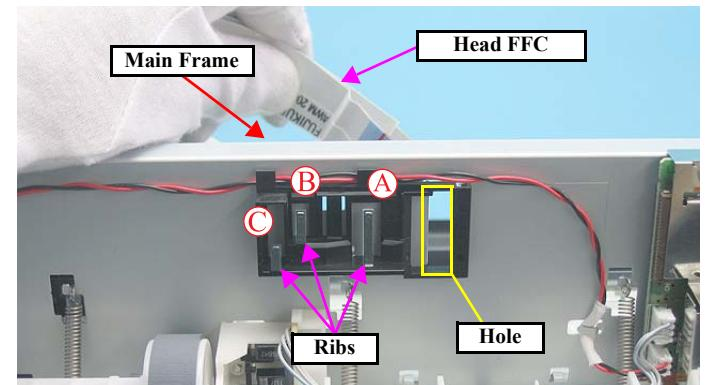

Figure 4-29. Installing Head FFC (1)
1. Put the Head FFC through the Hole of the Main Frame. (see Figure 4-29 (p.48))
2. Secure the Head FFC with Rib A, and B. (see Figure 4-29 (p.48))
(see Figure 4-29 \(p.48\))